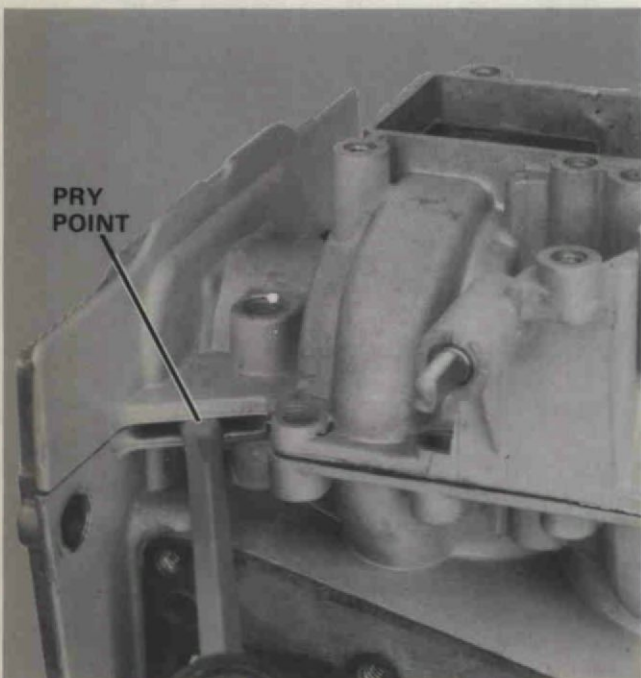

Figure 19. Prying off Crankcase Cover.
C. Pry crankcase cover from cylinder. Use screwdriver at pry points. Figure 19.